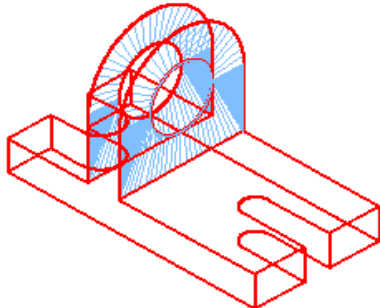

Figure Step 22
Step 22 Copy the surfaces from the front side of the model to back side as shown in Figure Step 22.